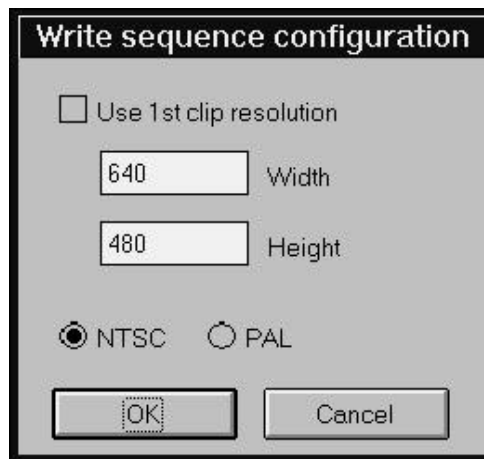

Figure 4-4 Write Sequence Configuration
2) Select **“Write Options” from the File Menu.** The Write Sequence Configuration window appears (Figure 4-4).